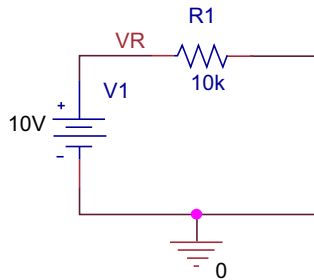
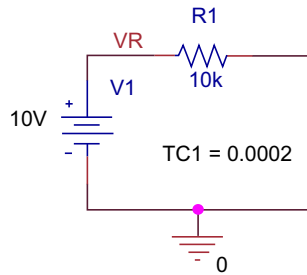

FIGURE 15.4
FIGURE 15.5
1. Draw the circuit shown in Figure 15.4 and double click on the resistor to open the Property Editor. Enter a linear coefficient value of 0.0002 in TC1 and **Display** both the property **Name** and **Value** of TC1 as shown in Figure 15.5. Make sure you name the node as **VR**, (**Place > Net Alias**).